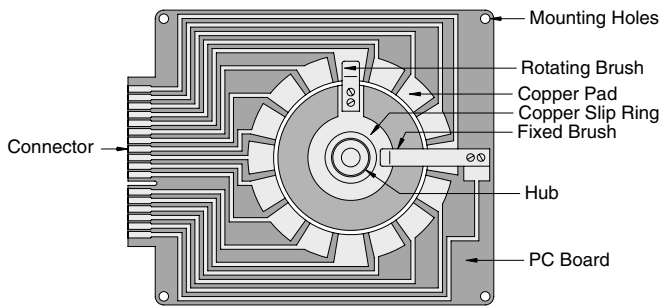

Figure 15-15 PC Board Rotary Position Indicator
Printed Circuit (PC) board rotary position indicators provide a simple method to construct low-cost resolvers. Figure 15-15 shows a typical PC board rotary position indicator. This particular unit is a single-pole, 15-position unit. It should be noted that these types of positioners can be configured to have several tracts, with specific positions and/or base two outputs.